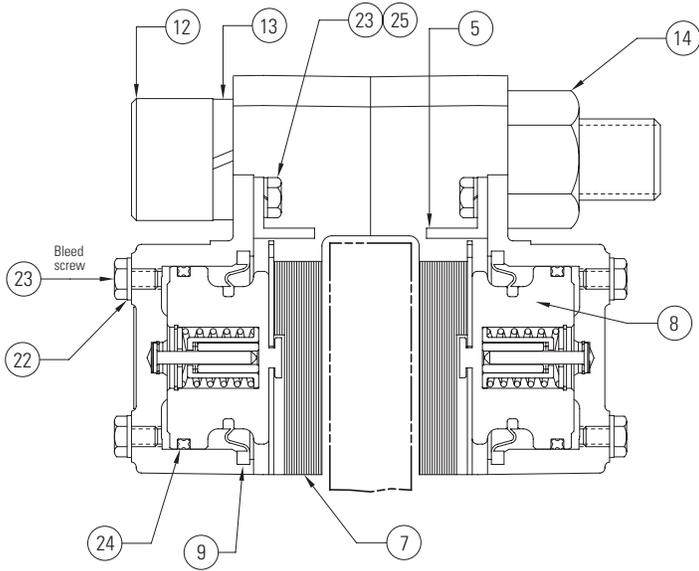

Figure 1
1.2.1 Throughout this manual, explanations mentioning specific components of the 225DP100 caliper disc brake assembly are often followed by numbers in parentheses, which refer to the item numbers in Table 1 and on Figures 1, 2 and 3; for example, friction shoe assembly (7).
See Figure 1 and Table 1.